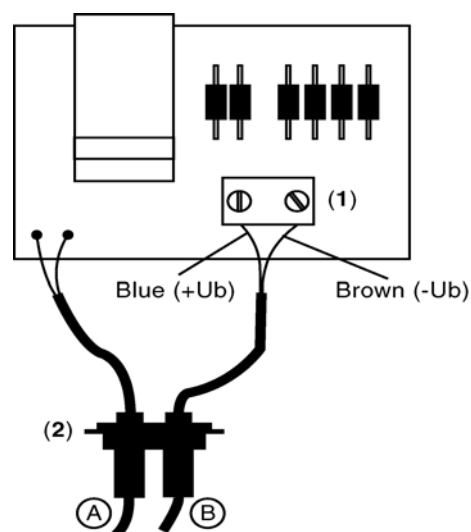

Fig. 2.154 Connecting the battery cable to desktop power adapter LT25W
4. Connect the supplied cable to the terminal (1) as shown in Fig. 2.154
5. Replace the cable feed-through (2) (Fig. 2.154) for a cable with the one supplied for two cables